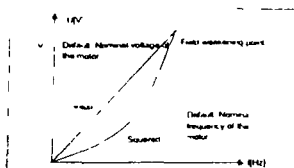

Figure 1-4.2 Linear and squared VHz curves
**Squared** The voltage of the motor changes following a squared curve with the frequency in the area from 0 Hz to the field weakening point (par. 6.3) where the nominal voltage is also supplied to the motor. See figure 1-4.2